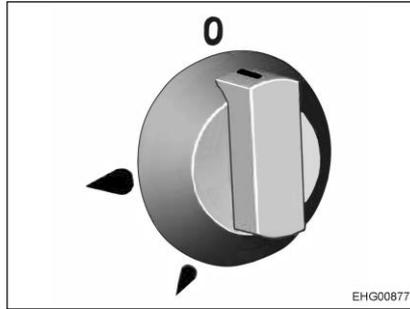

Fig. 131 Control knob
- Press the control knob (Fig. 131) of the desired burner to the ignition position (large flame) and hold it there.
- Press the control knob (Fig. 131), turn it to the ignition position (large flame) and hold it there.
- Press the control knob (Fig. 131) lightly and turn it to the highest setting (240 °C).